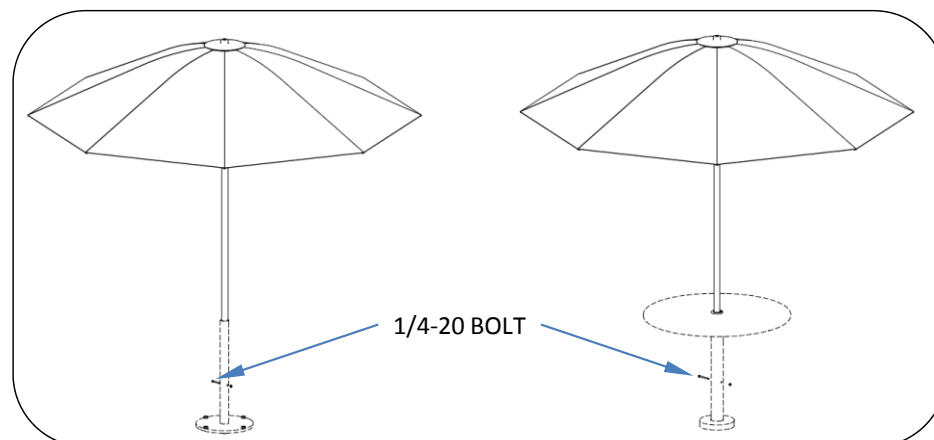

Fig. 2 – Secure umbrella
3. Turn umbrella to align holes in support and pole. Insert 1/4-20 bolt through holes and install locknut. See Fig. 2.